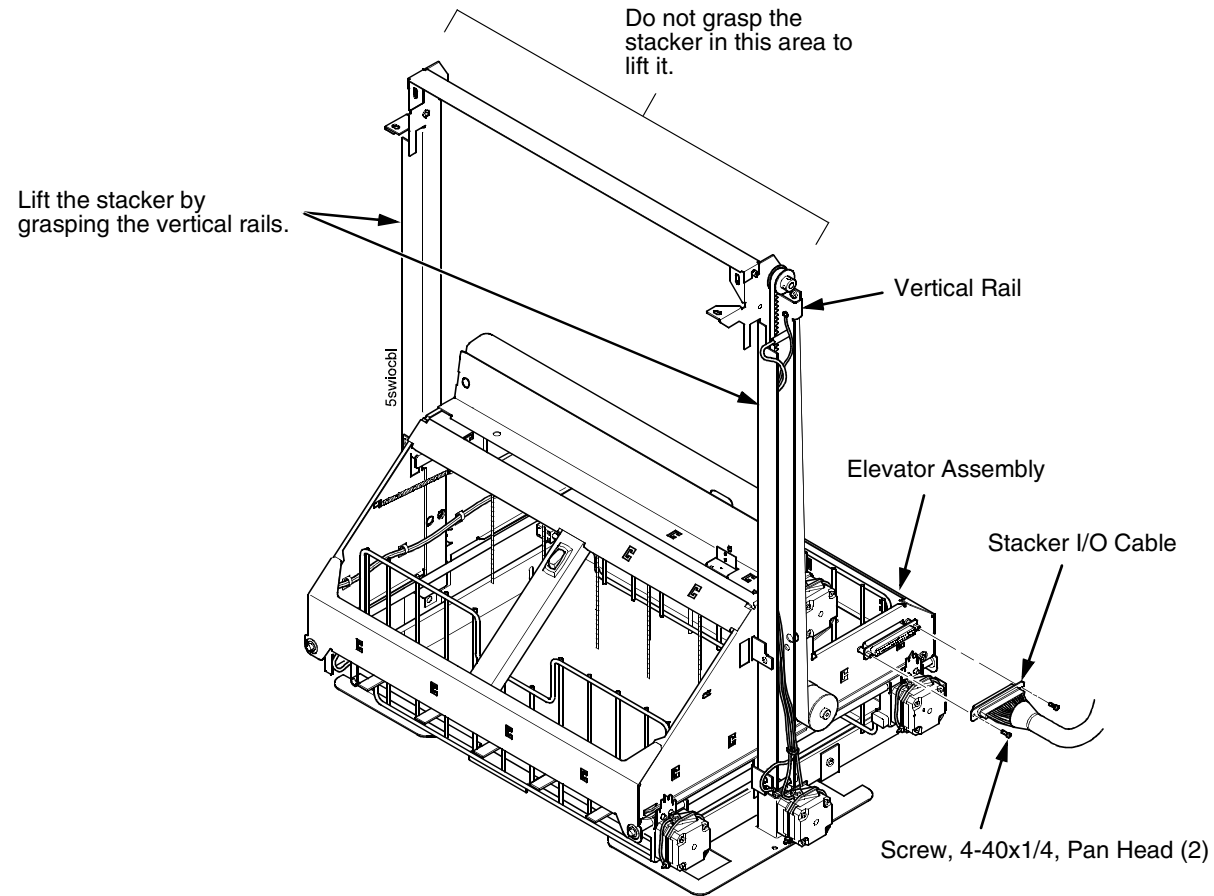

Figure 68. This figure shows where to disconnect the stacker I/O cable from the stacker elevator.
14. Remove the two 4-40 x 1/4 inch screws securing the elevator I/O cable to the elevator assembly and disconnect the stacker I/O cable. (Figure 68.)